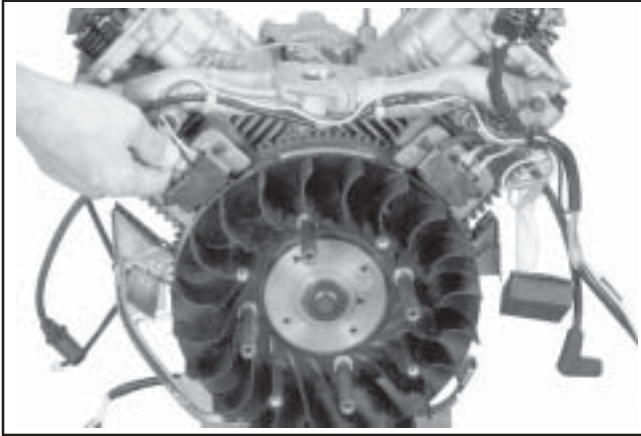

Figure 9-46. Disconnecting Leads from Ignition Modules.
1. Disconnect the lead(s)\* from each ignition module. See Figure 9-46. \*Modules for non-SMART-SPARK™ ignition systems have only one kill lead.